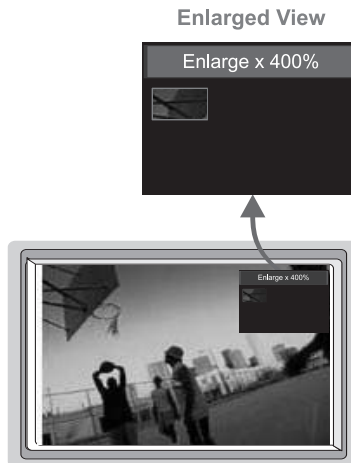

Figure 20: OSD Enlarge Status
The zoom ratio and the zoom position are illustrated by a small rectangle inside a transparent pop-up OSD Enlarge status box that appears at the top right corner of the screen, as the example in Figure 20 illustrates:
- Using the Zoom + and/or the Zoom - control keys1 on the infra-red remote control transmitter (see Figure 49). The pop-up OSD Enlarge status box continuously displays the zoom ratio and position, as Figure 20 illustrates